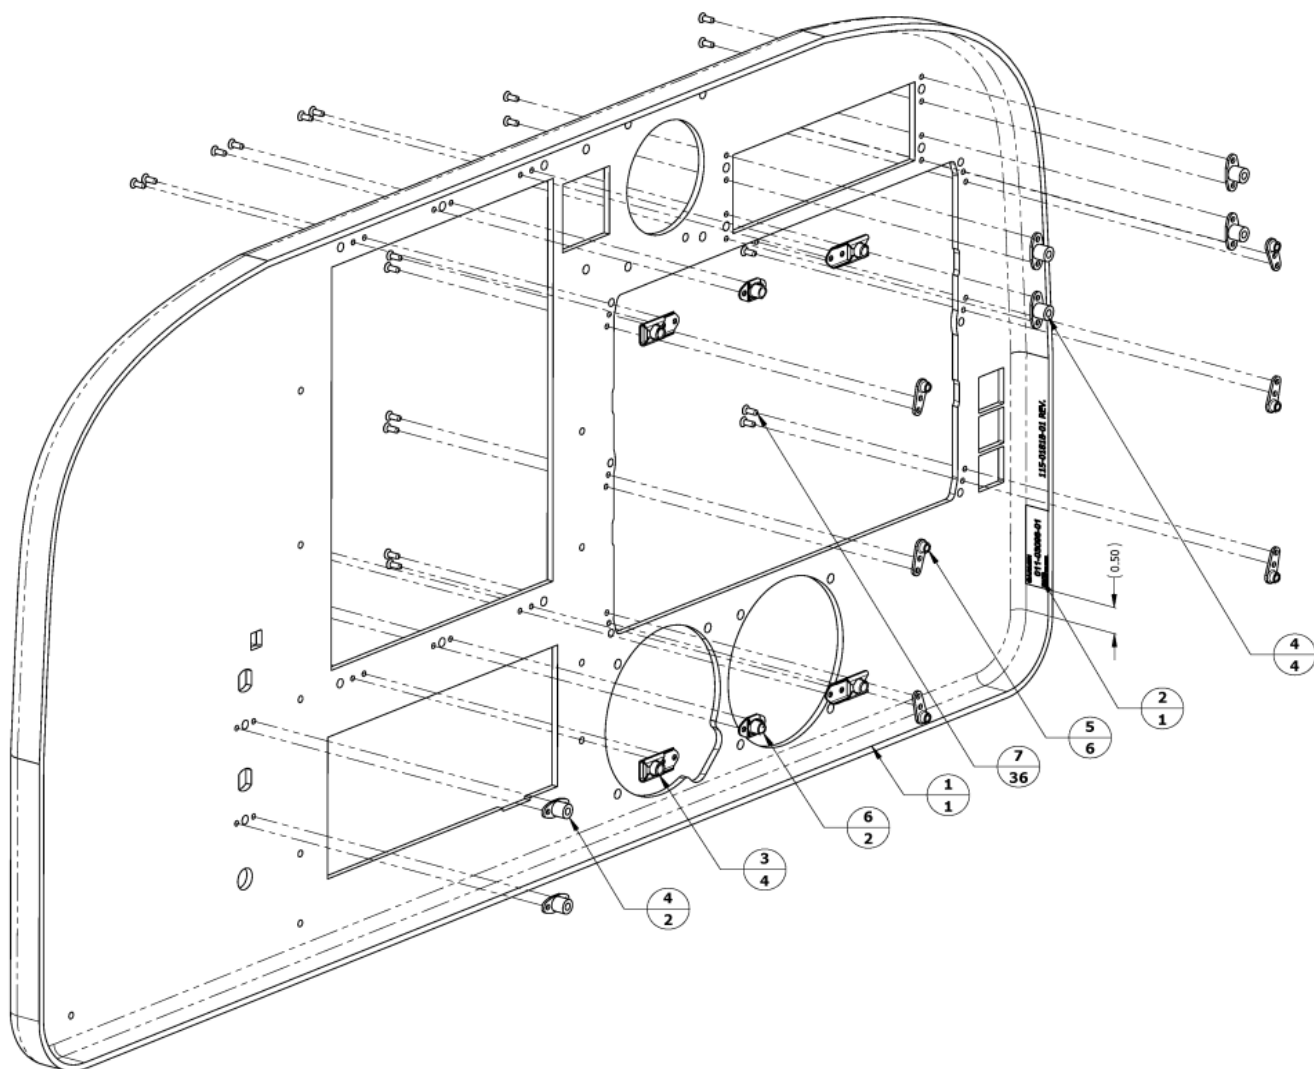

Figure 31-08
*Reference Table 31-08 and Figure 31-08.
| Table 31-08 Parts List for Figure 31-08 | | | | |